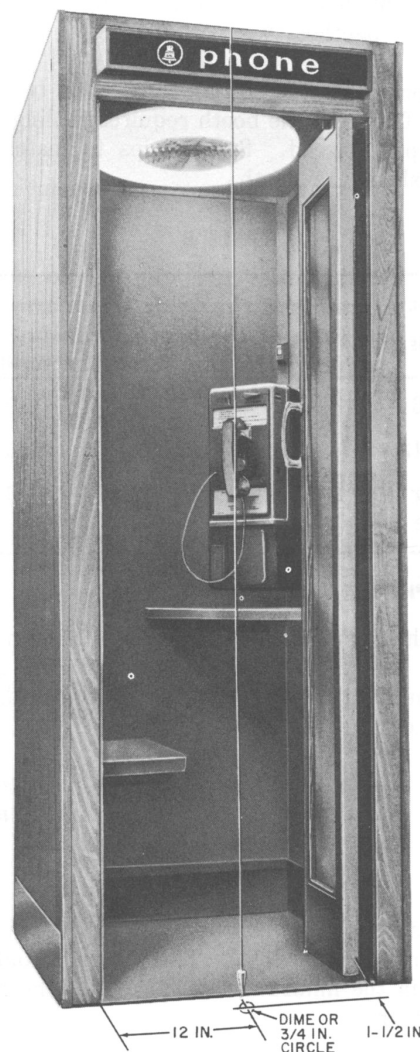

Fig. 1—KS-19340 Booth With Plumb Line
- (1) Place a dime (or mark a 3/4 in. circle) as shown in Fig. 1.
- (2) Suspend a plumb line (obtain locally), as shown in Fig. 1, from a tack placed temporarily in center of top edge of booth.
- (3) Shim the booth, as described in 3.04, until the plumb line is centered within area of dime or marked circuit.